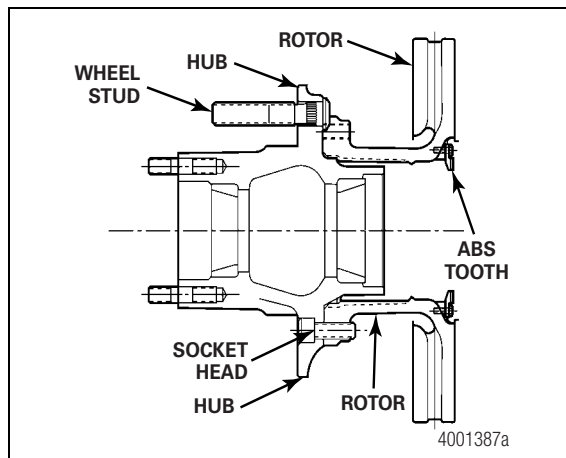

Figure 3.13
2. If it is necessary to remove the rotor, remove the 10 socket-head capscrews that secure the rotor to the hub. Remove the rotor from the hub. Figure 3.13.